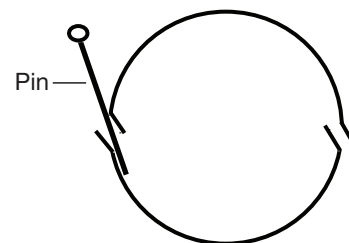

Figure 4.
6. Insert the pin back into one of the holes, and then push the pin head to one side to make the hole tangential to the wall of the can. Repeat this step for the second hole, pivoting the pin head to the same side as for the first. See Figure 4 for a top view cross-section of these tangential holes.